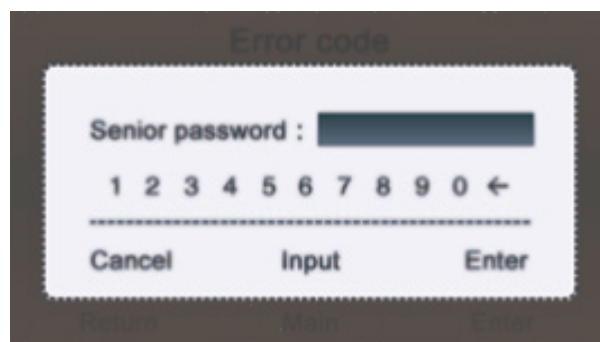

Figure 15
3. A common user can view the current faults and historic faults; a high-class user can view 10 historic faults, using the "Downward" key and "Upward" key. If a common user presses the "Downward" key, a window as shown in Figure 15; a high-class user can enter his/her password to view ten historic faults.